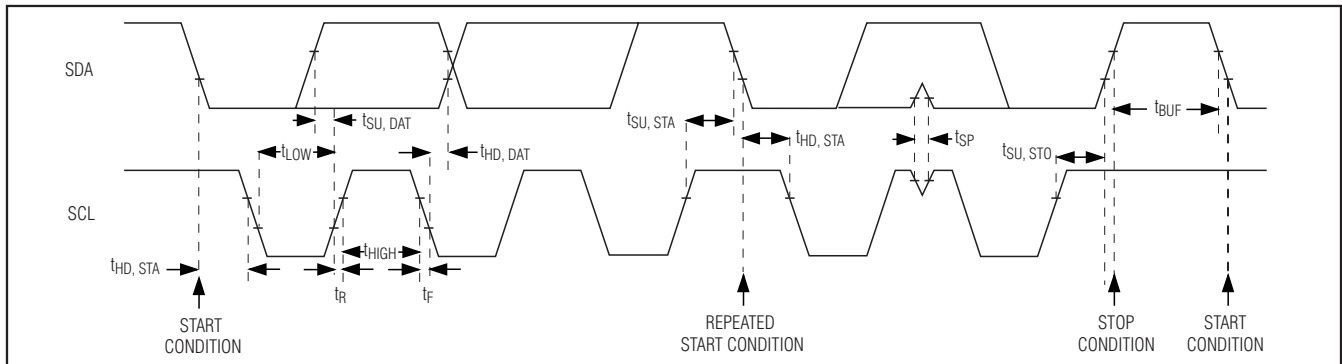

Figure 4. I²C Serial-Interface Timing Diagram
The MAX9597 features an I²C/SMBus™-compatible, 2-wire serial interface consisting of a serial-data line (SDA) and a serial-clock line (SCL). SDA and SCL facilitate communication between the MAX9597 and the master at clock rates up to 400kHz. Figure 4 shows the 2-wire interface timing diagram. The master generates SCL and initiates data transfer on the bus. A master device writes data to the MAX9597 by transmitting a START (S) condition, the proper slave address with the R/W bit set to 0, followed by the register address and then the data word. Each transmit sequence is framed by a START and a STOP (P) condition. Each word transmitted to the MAX9597 is 8 bits long and is followed by